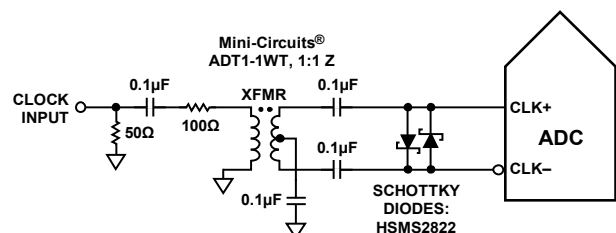
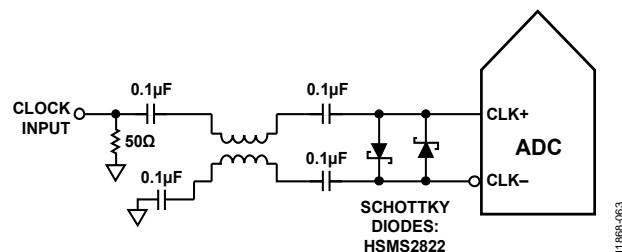

Figure 57. Transformer-Coupled Differential Clock (Up to 200 MHz)
Figure 58. Balun-Coupled Differential Clock (Up to 1 GHz)
Figure 57 and Figure 58 show two preferred methods for clocking the AD9656 (at clock rates up to 1 GHz prior to internal clock divider). A low jitter clock source is converted from a single-ended signal to a differential signal using either a radio frequency (RF) transformer or an RF balun.
The RF balun configuration is recommended for clock frequencies between 125 MHz and 1 GHz, and the RF transformer configuration is recommended for clock frequencies from 40 MHz to 200 MHz. The Schottky diodes, across the transformer/balun secondary winding, limit clock excursions into the AD9656 to approximately 0.8 V p-p differential (see Figure 57 and Figure 58).